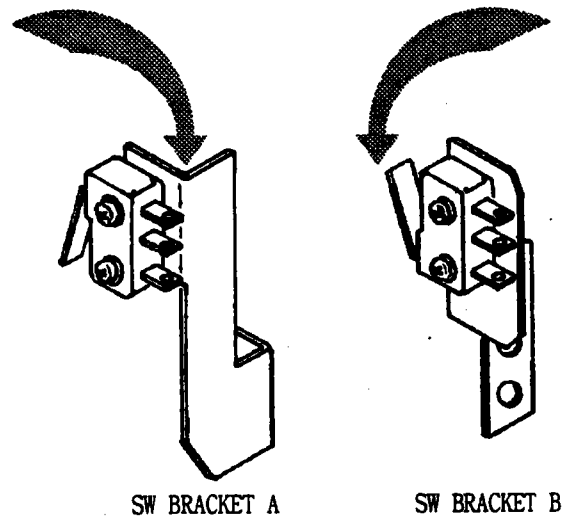

FIG. 11.3
- ④ To secure the replaced SW to the bracket, incline it as shown (FIG. 11.3). Securely fasten the screws by applying an anti-loosening agent to the screws.
- ⑤ Install the SW bracket with 2 screws. When installing SW BRACKET A, an adjustment in the following procedure is required.
- ⑥ After SW replacement, check the SW input in the test mode.